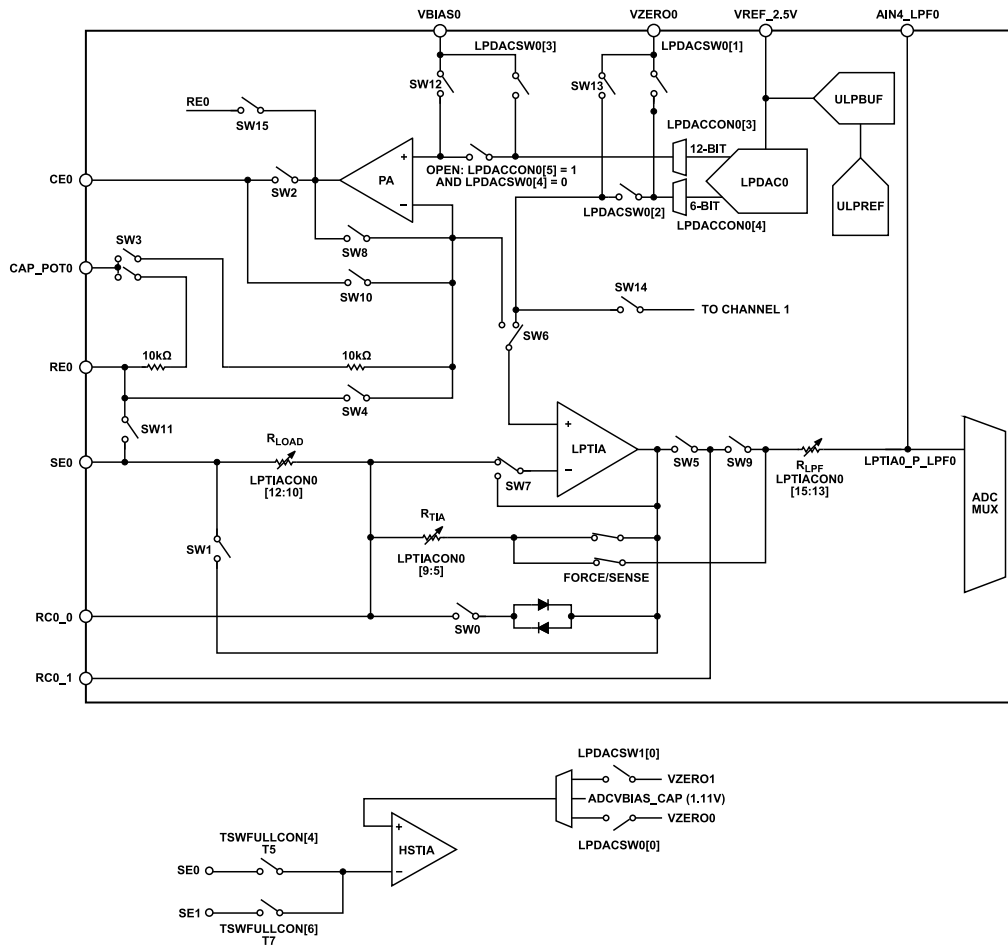
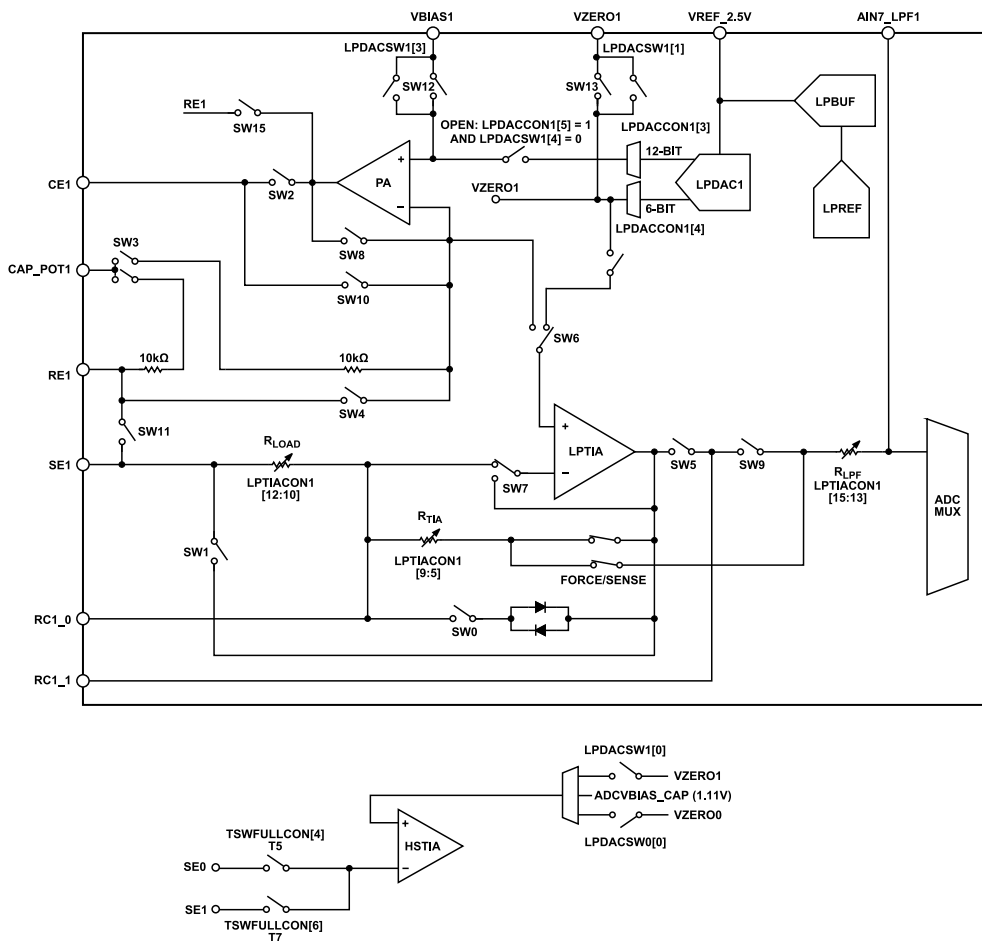

Figure 16. Low-Power TIA, Low-Power Potentiostat, and Low-Power DAC Switches for Channel 0
Figure 17. Low-Power TIA, Low-Power Potentiostat, and Low-Power DAC Switches for Channel 1
A number of operation modes are selectable by user code. The different modes are selected by configuring a series of switches. **Figure 16** shows the various switches for Channel 0. These switches are controlled within the LPTIASW0 register. The switches in **Figure 17** are controlled by the LPTIASW1 register for Channel 1. Switch 0 (SW0) to Switch 13 (SW13) are the same for both channels. Channel 1 does not have SW15 or SW14. The LPTIASW0 register, Bit 0, controls SW0, and the LPTIASW0 register, Bit 1, controls SW1.
**Figure 16** shows back to back protection diodes connected parallel to the  $R_{TIA0}$  gain resistor. These diodes can be connected or disconnected by controlling SW0, which in turn is controlled by LPTIASWx, Bit 0. These diodes are intended for use when switching  $R_{TIA}$  gain settings to amplify small currents to prevent saturation of the TIA. These diodes have a leakage current specification that is dependent on the voltage across them. The leakage current is large if the differential voltage across the diode is  $>200$  mV. The leakage current can be  $>1$  nA and several microamperes if  $>500$  mV.
Close SW0 when changing the  $R_{TIA}$  value, and open SW0 again when the change is complete. If high currents are detected on the low-power TIA input path when using an oxygen electrochemical sensor, close the shorting switch, SW1, to protect the low-power TIA input circuitry. SW1 is controlled by LPTIASWx, Bit 1. For full details of the high-speed TIA in Figure 16 and Figure 17, refer to the High-Speed TIA Circuits section.
LPTIACONx, Bits[9:5] select different gain resistor values for the low-power TIA, labeled as  $R_{TIA}$  in Figure 16 and Figure 17. The force and sense connections shown on the feedback path of the low-power TIA are used to avoid voltage ( $I \times R$ ) drops on the switches used to select different  $R_{TIA}$  settings for the internal  $R_{TIA}$ .
There are a number of switch options available that allow the user to configure the low-power DACs for various modes of operation. These switches facilitate a number of different use cases, such as electrochemical impedance spectroscopy. Figure 16 shows the location of the switches controlled by LPDACSWx, Bits[4:0]. These switches are controlled either automatically via LPDACCONx, Bit 5 or individually via the LPDACSWx registers.
Table 106 details the recommended switch settings in the low-power potentiostat loop for various measurement types. For all measurement types, setting to 1 closes the switch and setting to 0 opens the switch. LPTIASWx, Bits[13:0] control SW13 to SW0 in Figure 16 and Figure 17.